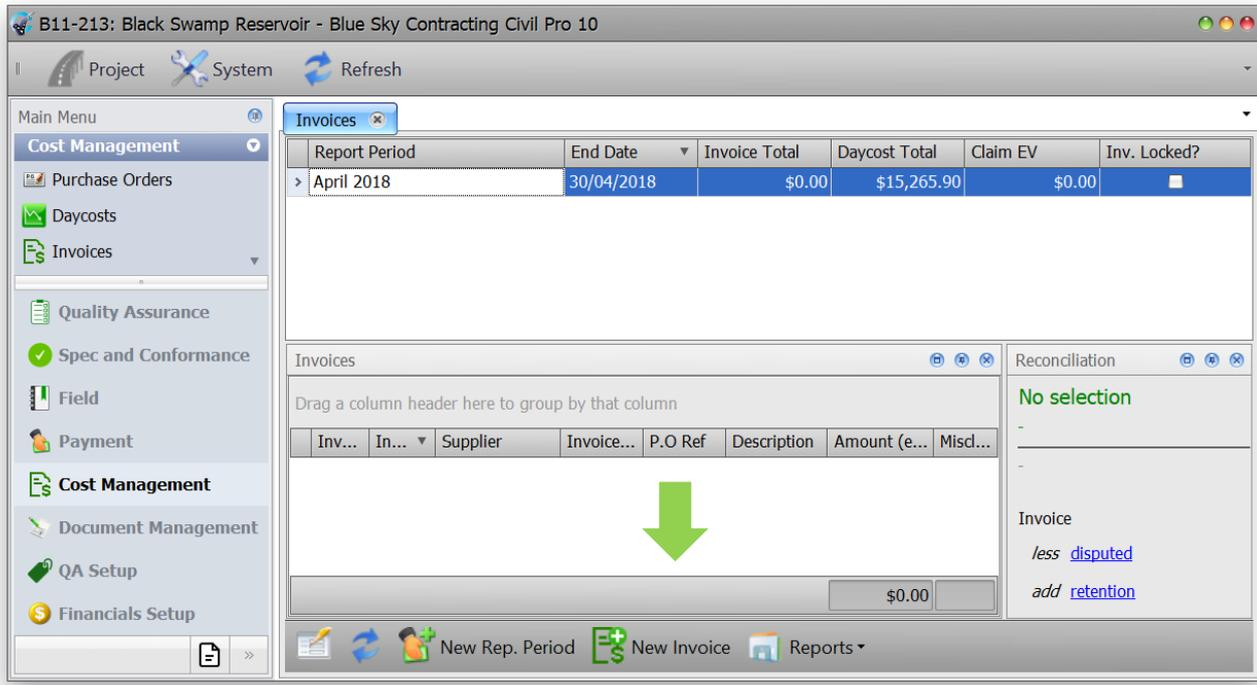

Figure 71 New Invoice button in the Invoice register screen
2. Within the Invoices register click on the *New Invoice* option at the bottom of the screen (Figure 71)